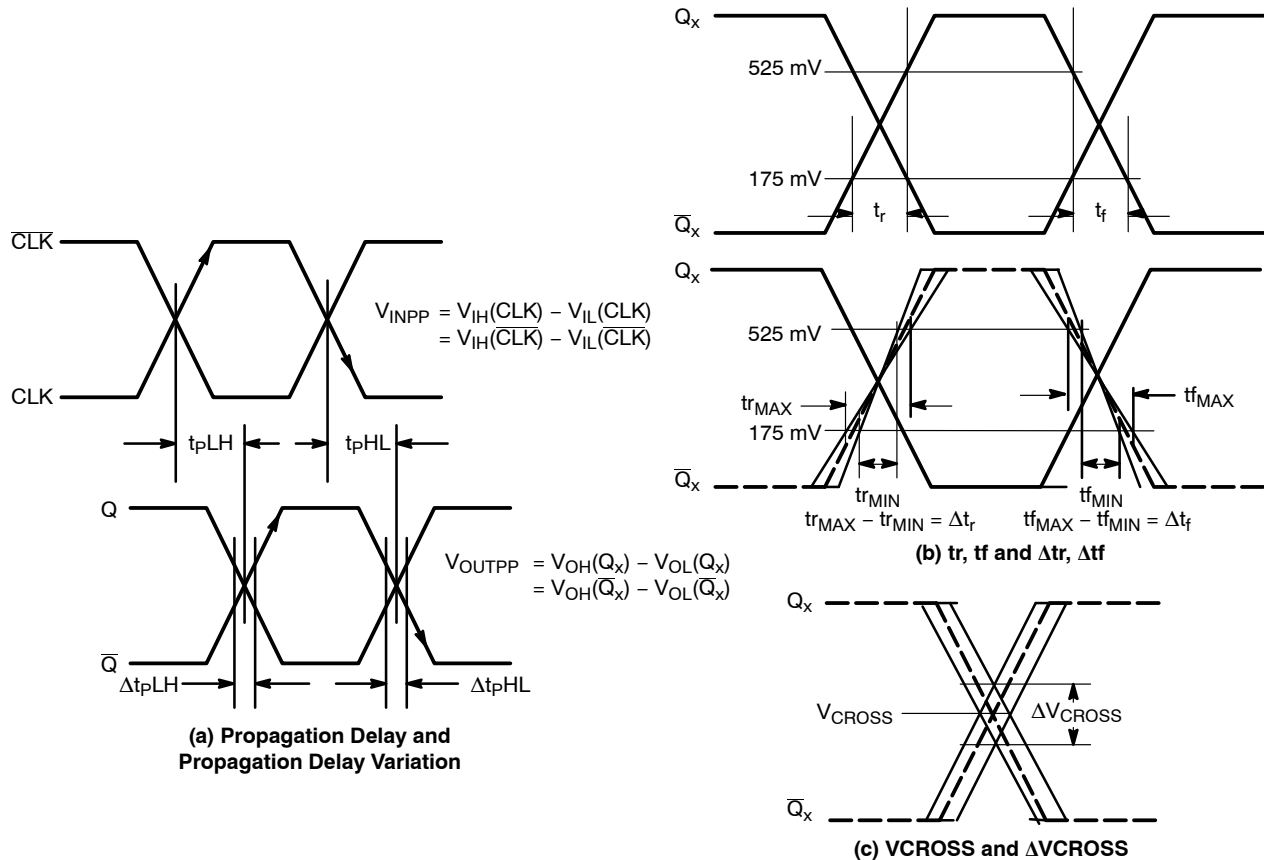

Figure 3. AC Reference Measurement
7. Measured from the input pair crosspoint to each single output pair crosspoint across temp and voltage ranges per Figure 3.